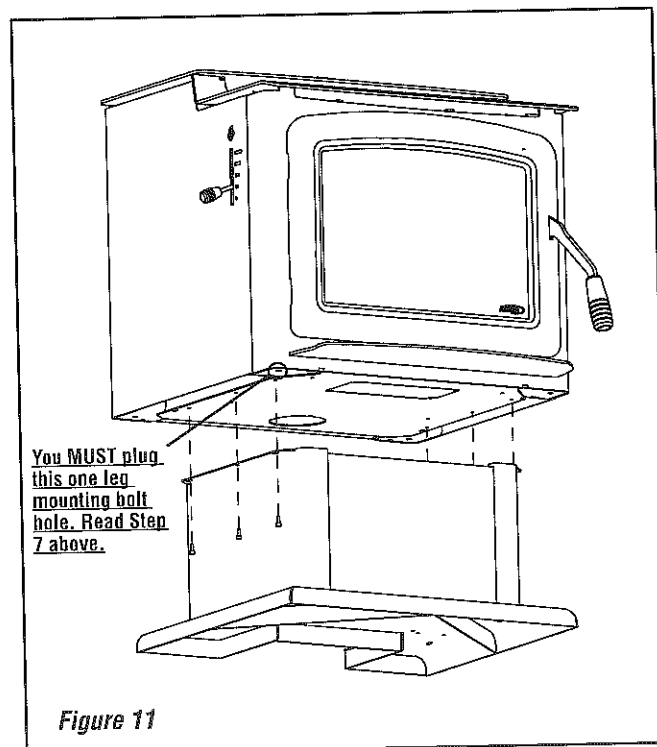

Figure 11
2. Install the 10-24 screws included with the pedestal kit to the bottom of the stove as seen in **Figure 11**. You will need a 5/32" allen wrench to complete this.